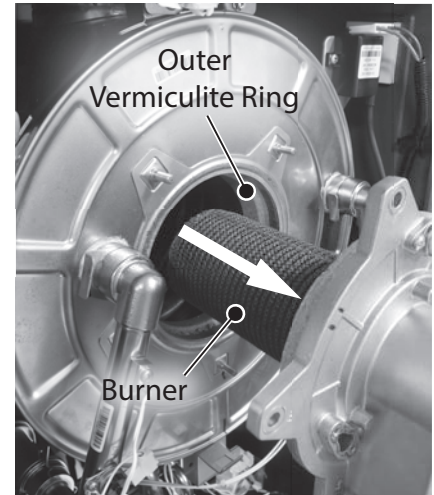

Figure 119 - Remove burner door assembly
- 17** Remove the burner door assembly from the heat exchanger. Carefully pull the assembly out such that the burner and outer vermiculite ring are not damaged as shown in Figure 119.